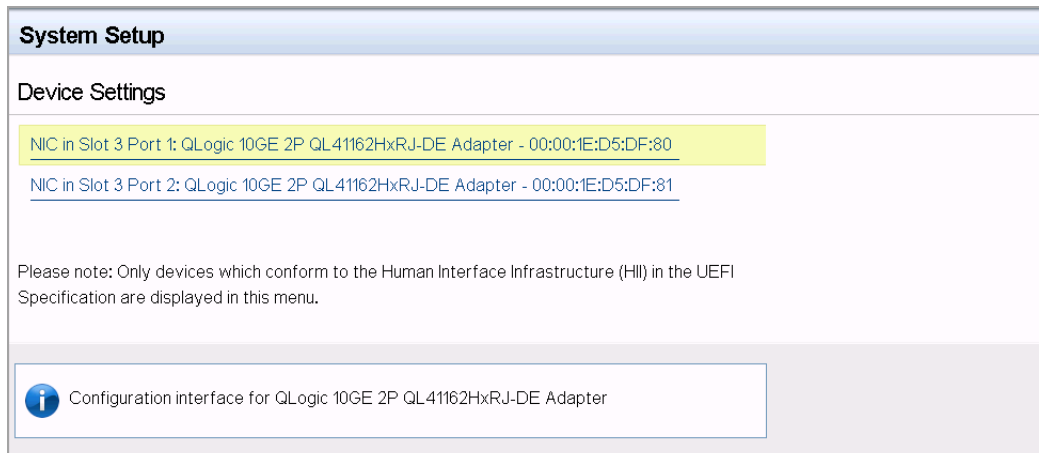

Figure 5-2. System Setup: Device Settings
3. In the Device Settings window (Figure 5-2), select the 41000 Series Adapter port that you want to configure, and then press ENTER.